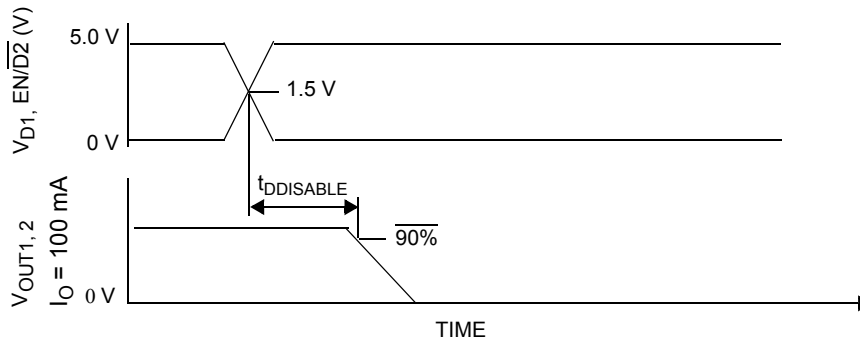

Figure 5. Disable Delay Time
26. * Disable Delay Time measurement is defined in Figure 5, page 10.